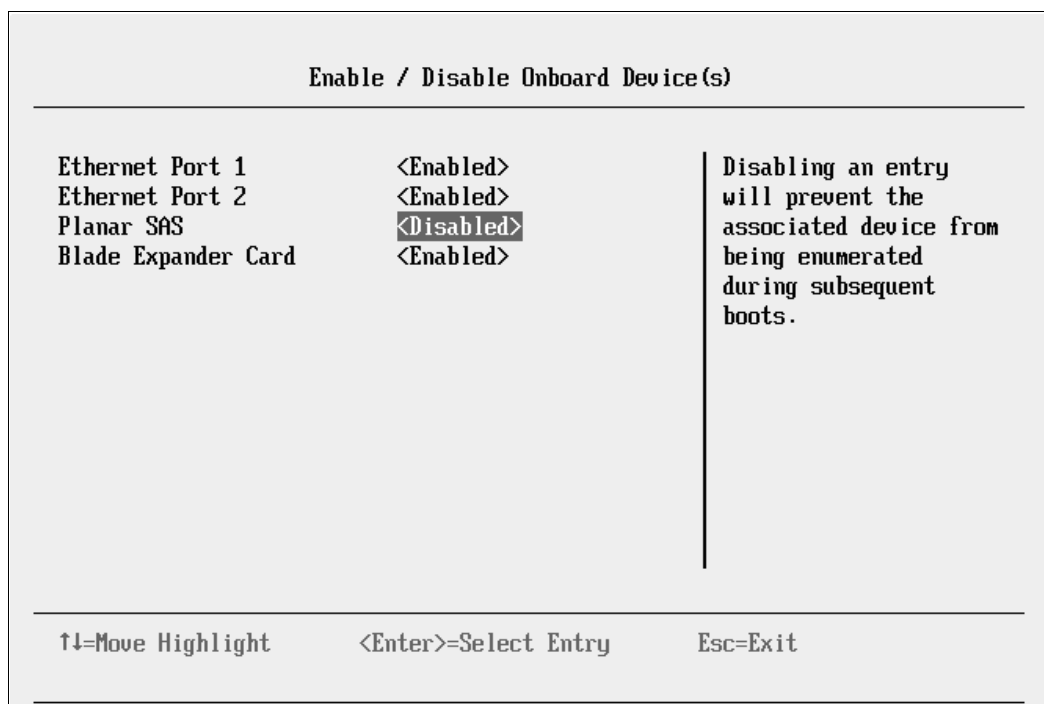

Figure 9-2 Disabling the planar SAS
4. In the Enable / Disable Onboard Device(s) panel (Figure 9-2), follow these steps:
- b. Highlight **Disabled**, and then press Enter. Figure 9-2 shows the change.